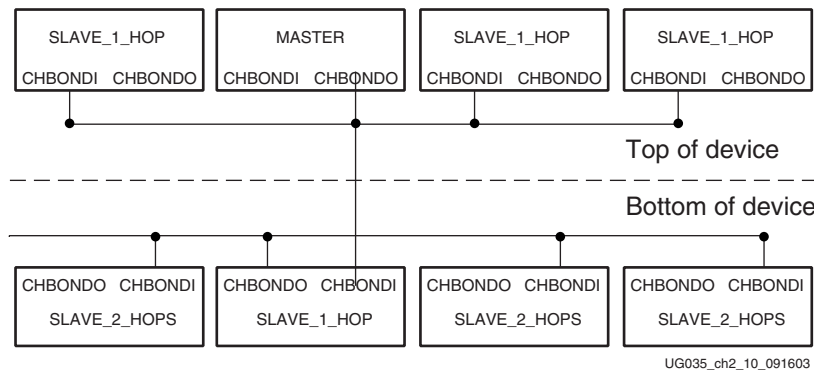
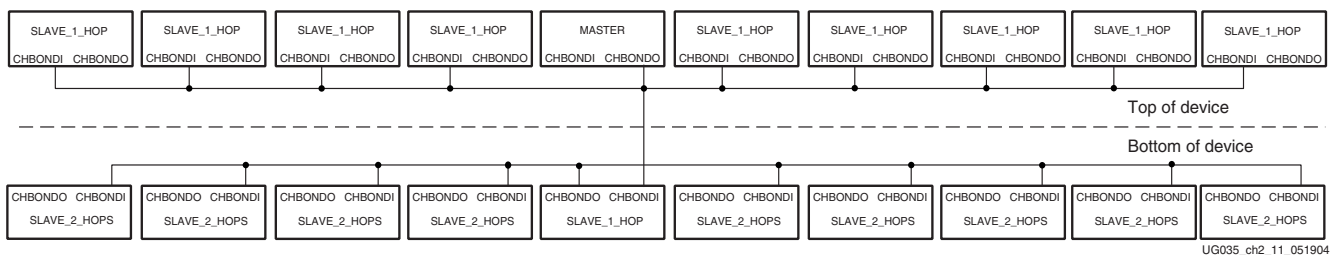

Figure 2-11: XC2VPX20 Device Implementation
Figure 2-12: XC2VPX70 Device Implementation
In Figure 2-11, the two Slave\_1\_hops are linked to the master in only one direction. To navigate to the other slave (a Slave\_2\_hops), both X and Y displacement is needed. This slave needs one level of daisy-chaining, which is the basis of the Slave\_2\_hops setting.
Figure 2-11 and Figure 2-12 show the channel bonding mode and linking for an XC2VPX20 and XC2VPX70 devices, which (optionally) contain more transceivers (20) per chip. To ensure the timing is met on the link between the CHBONDO and CHBONDI ports, a constraint must be added to check the time delay.